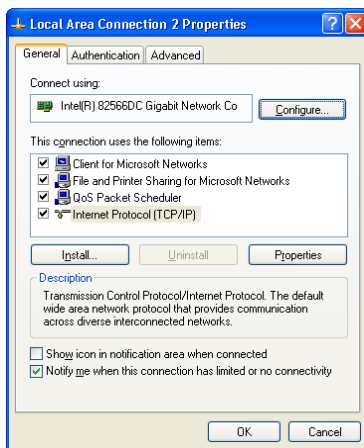

Figure 37: Local Area Connection Properties Window
The Local Area Connection Properties window appears (see Figure 37).
5. Select the Internet Protocol (TCP/IP) and click the **Properties** Button (see Figure 37).